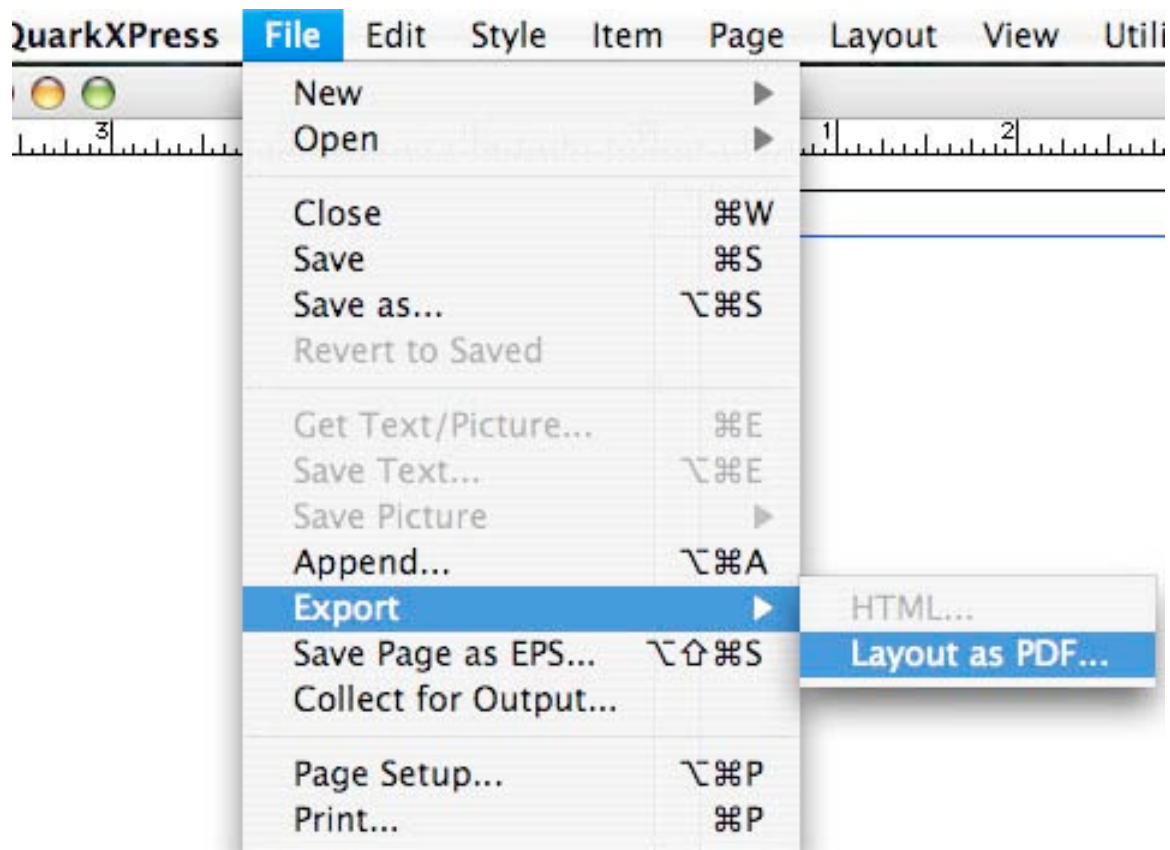

Figure 8
- Choose **File > Export > Layout as PDF...** (See Figure 8)